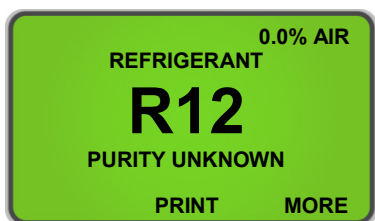

Figure 14
The Ultima ID Pro™ has the ability to identify the following refrigerants: **R12, R32, R408A, R409A, R417A, R421A, R421B, R422A, R422B, R422C, R427A** and **Hydrocarbons (HC)**. All identified refrigerants will display with "Purity Unknown" as the analyzer cannot yield additional information regarding the composition **(Figure 14)**. Refer to **2.12 Channel Data Modelling** for additional information regarding Identified Refrigerants.